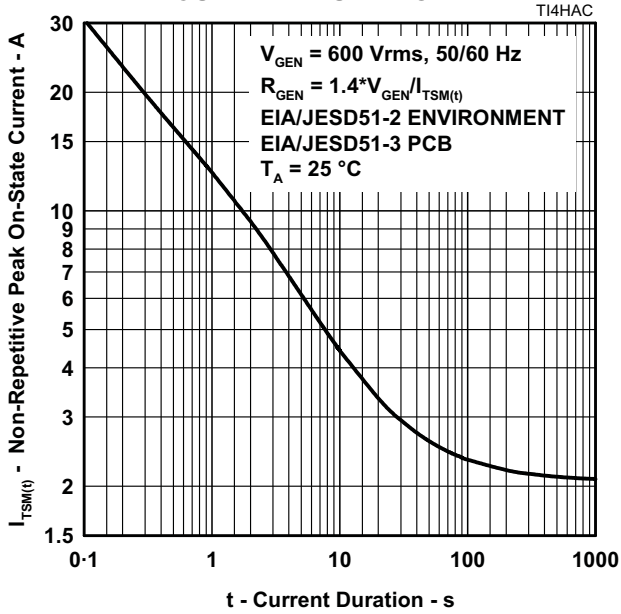

Figure 5.
4. EIA/JESD51-2 environment and EIA/JESD51-3 PCB with standard footprint dimensions connected with 5 A rated printed wiring track widths. See Figure 5 for the current ratings at various durations. Derate current values at $-0.61\text{ }^\circ\text{C}$ for ambient temperatures above $25\text{ }^\circ\text{C}$.